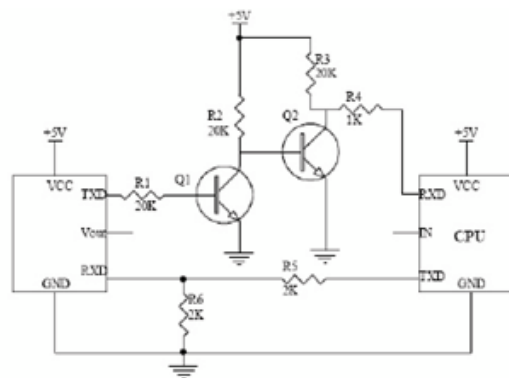

Figure4
- ② If the connection 5 V equipment (CPU), the proposal for level conversion. Through a serial port receiving gas concentration data and execution calibration function. As shown in figure 4: